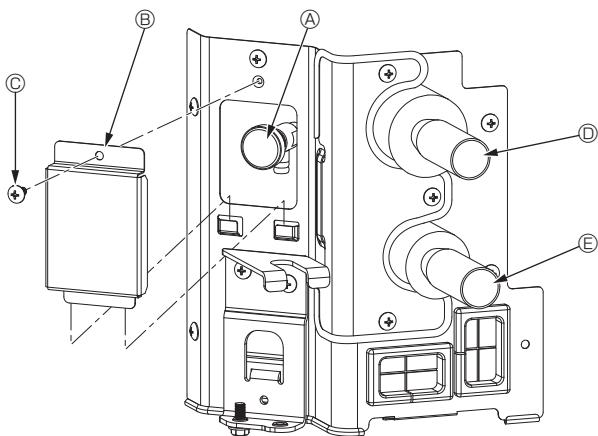

Fig. 7-1
7.2.2. The air vent valve of indoor unit (Fig. 7-1)
- ① Remove the air purge valve cover.
- ② Hold "A" with your fingers and twist it 3–4 times.
- ③ Air purge valve
- ④ Air purge valve cover (Tightening torque: 1.3 ± 0.3 N·m)
- ⑤ Screw
- ⑥ From HBC unit (Inlet)
- ⑦ To HBC unit (Outlet)